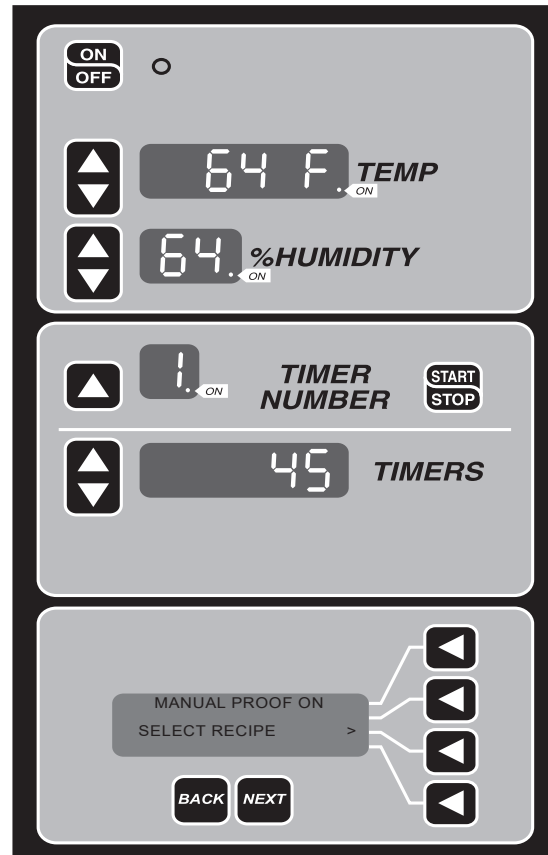

Fig. 6
2. Set TEMP (temperature), use the up or down arrow buttons to set the desired temperature (Fig 6).